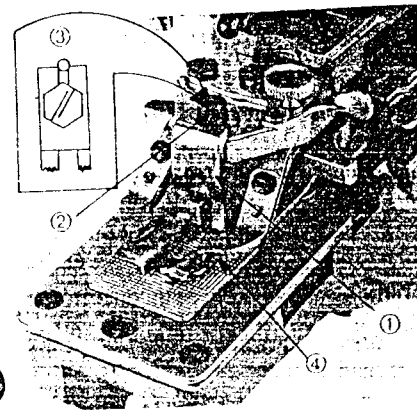

Fig. 27
(ii) How to install the wrapped-around button clamp (Fig. 27, 28, 29.)
a. Attaching the button attaching attachment (Fig. 27)